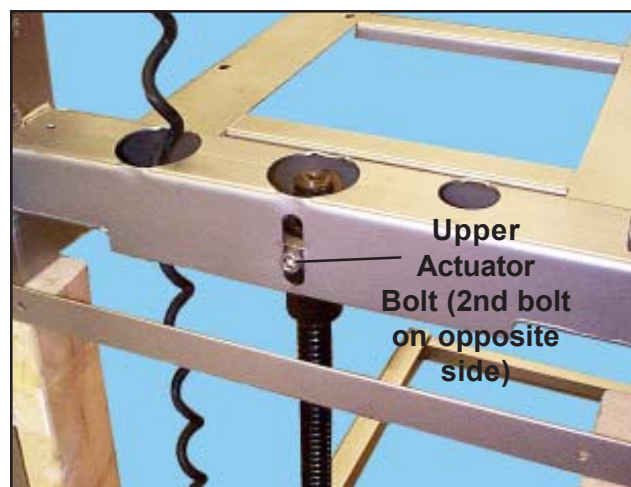

Figure 30. Top Actuator Bolts
20. With a 5/16-in. hex key (Allen wrench) remove the two upper actuator bolts (Figure 30).